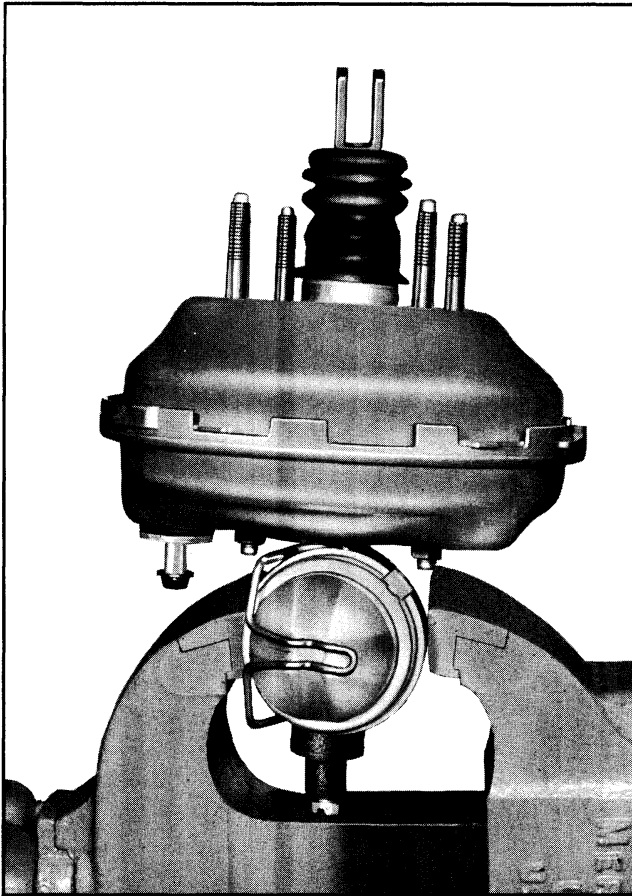

Fig. 5B-6 Brake Unit Mounted in Vise
1. Put power brake unit in a vise, clamping on sides of master cylinder reservoir with push rod up (Fig. 5B-6).